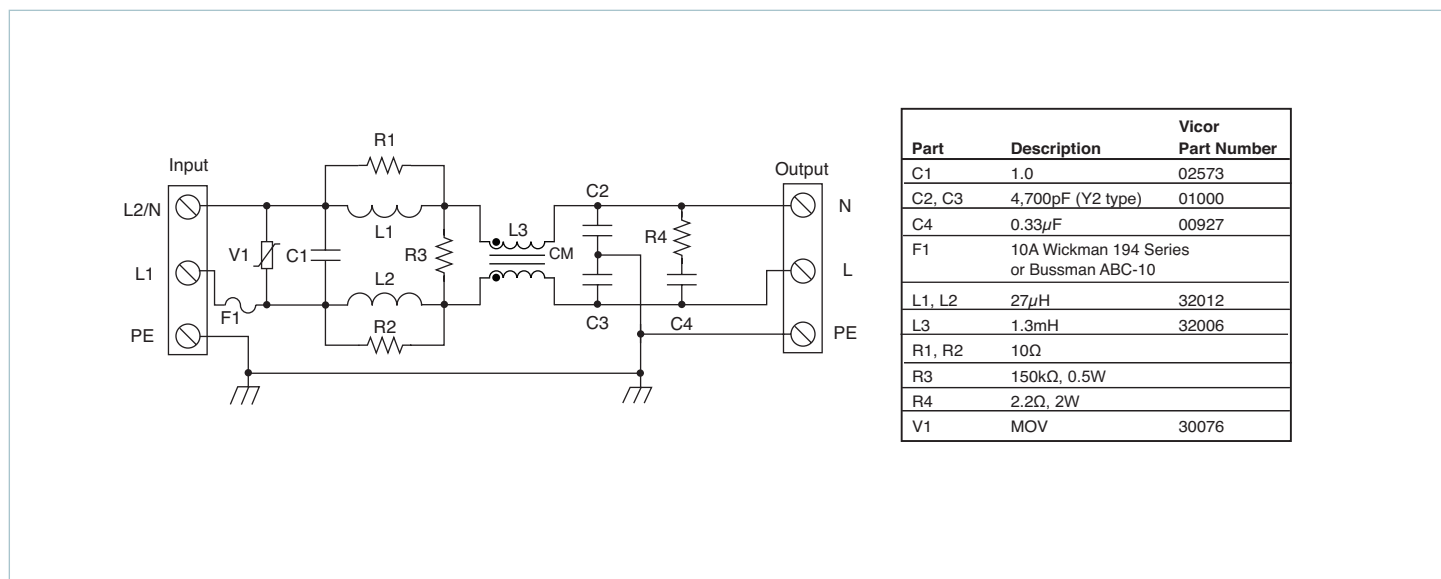
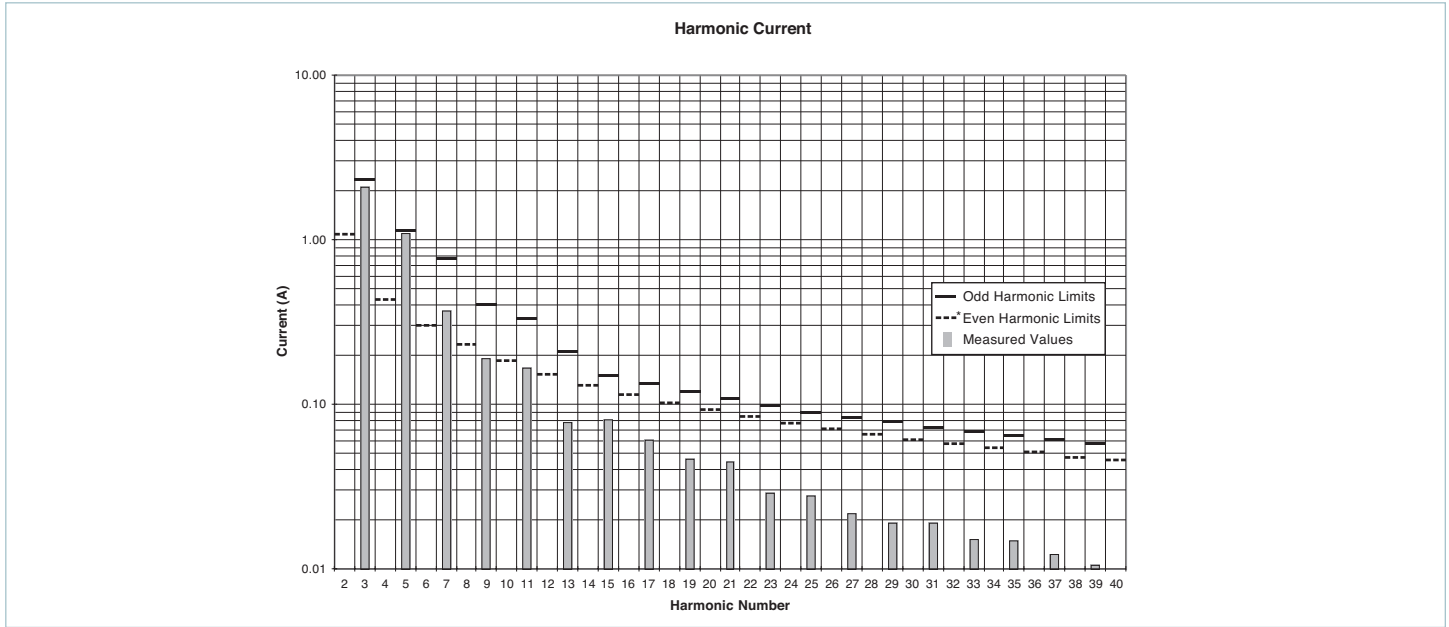
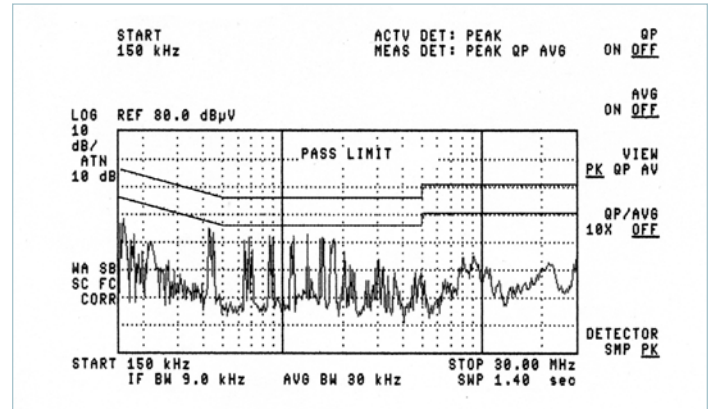

Figure 9.1b — Input EMI filter for EN55022, Class B compliance
Figure 9.2 — Measured harmonic current at 230VAC 575W vs. EN spec limits (\*Measured values of even harmonics are below 0.01A)
Figure 9.10a — Peak detection
The ENMod system provides transient / surge immunity, harmonic current attenuation (Figure 9.2) and EMI filtering, in addition to all of the power switching and control circuitry necessary for autoringing rectification, inrush current limiting and overvoltage protection. Converter enable and status functions for orderly power up / down control or sequencing are also provided. To complete the AC front-end configuration, the user only needs to add hold-up capacitors, EMI filter (Figure 9.1b), and a few discrete components.
**Filter:** (Figure 9.1b) The input EMI filter consists of differential and common-mode chokes, Y-capacitors (line-ground) and X-capacitors (line-line). This filter configuration provides sufficient common-mode and differential-mode insertion loss in the frequency range between 100kHz and 30MHz to comply with the Class B conducted emissions limit, as illustrated in Figures 9.10a – 9.10c.